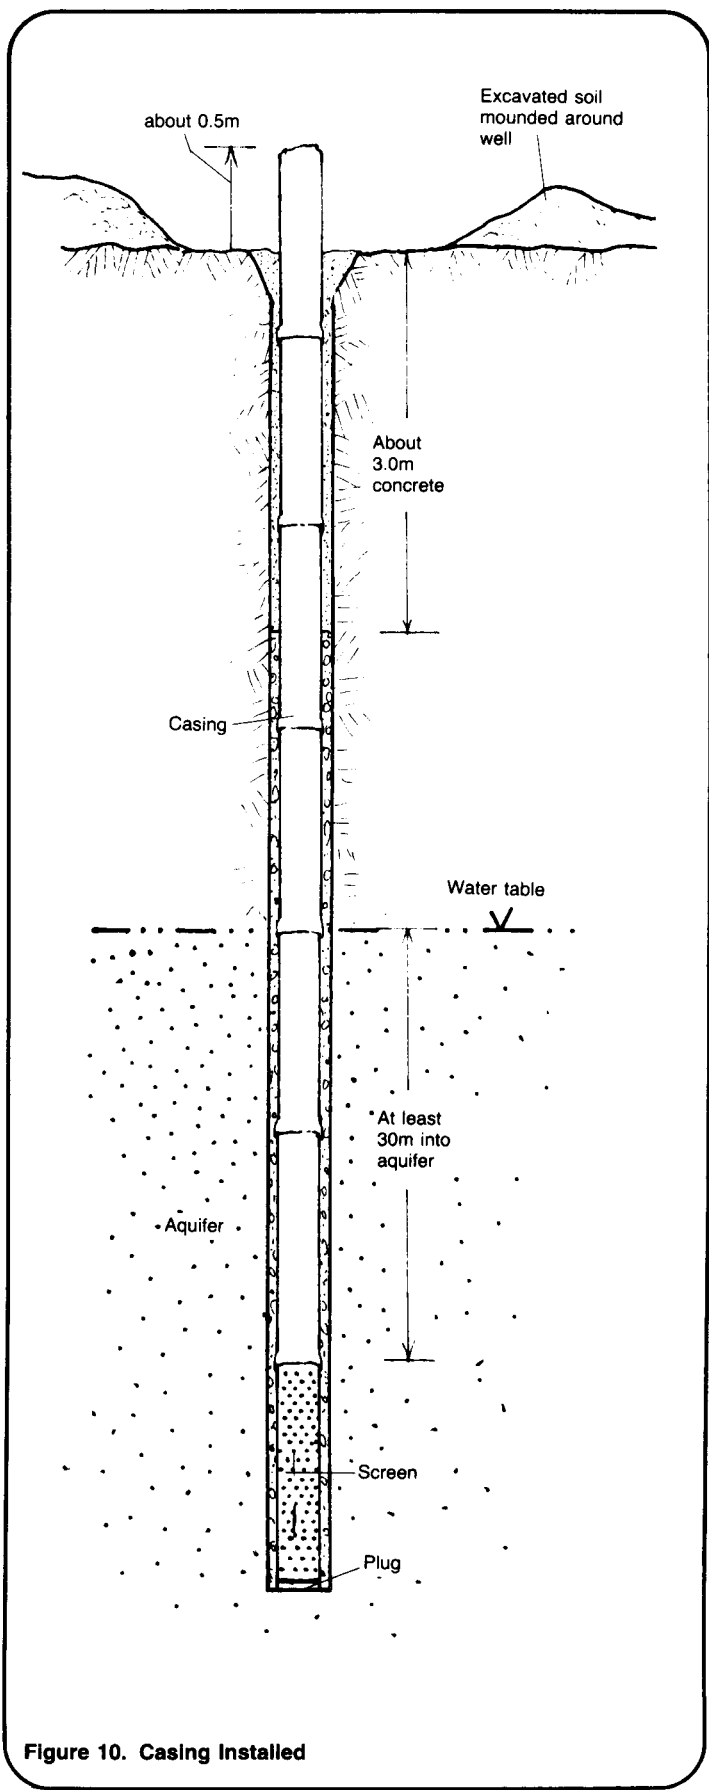

Figure 10. Casing Installed
9. Pour gravel or crushed rock around the outside of the casing to within about 3m from the ground surface. Fill this last 3m with concrete mix, pouring it carefully around the outside of the casing. See Figure 10.